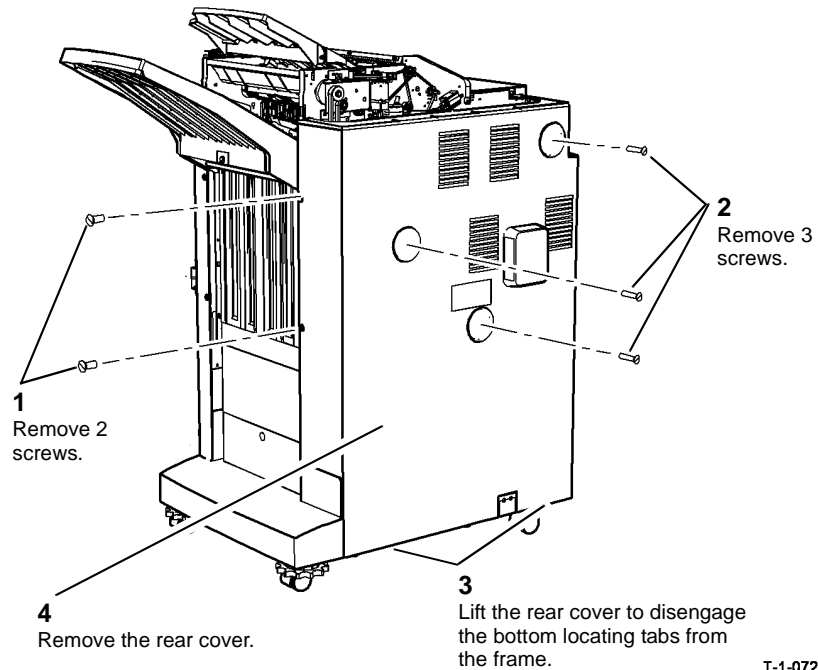

Figure 4 Rear cover removal
- Remove the rear cover, Figure 4.